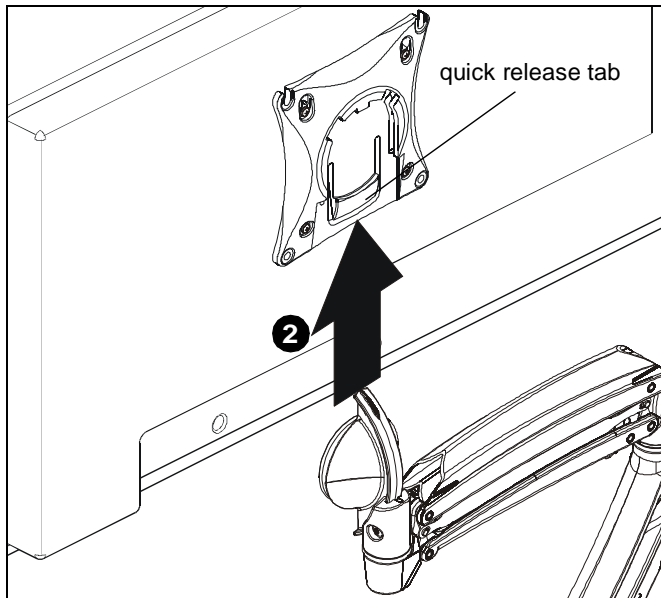

Figure 19
WARNING: Only remove display from mount when the display can be lifted up from the mount! DO NOT remove display unless the display is in the upright position! (See Figure 19)
2. Remove quick release faceplate from mount by pressing quick release tab and sliding faceplate off mount. (See Figure 19)